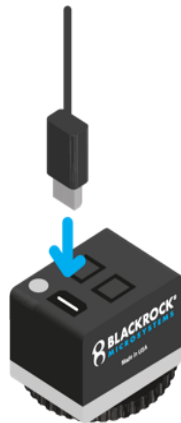

Figure 3–HDMI connection to the CerePlex E (E96/128 shown)
1. Connect the CerePlex E to either a CerePlex Direct or Digital Hub through an HDMI A-D cable (see **Figure 3**).